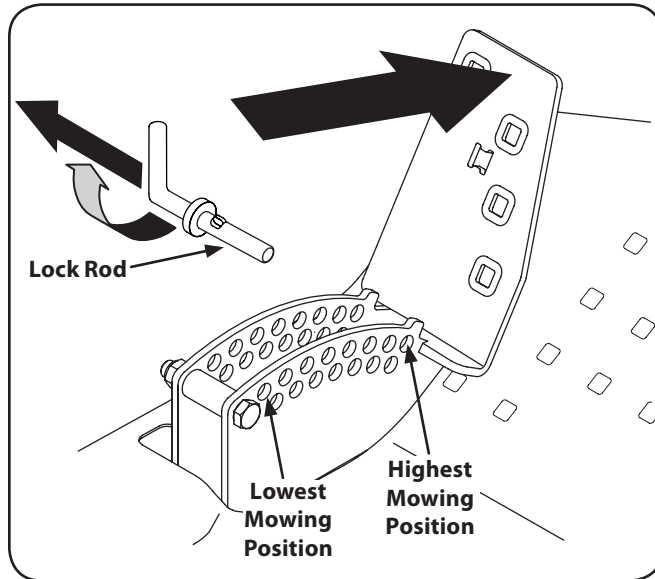

Figure 7-3
2. Remove the lock rod by pressing the pedal forward to release tension then rotate the lock rod until the end of the rod points upward and slide it out of the deck height bracket. See Fig. 7-3.
1. Place the deck lift pedal in the highest mowing position and secure it by placing the lock rod behind the pedal. See Fig. 7-3.